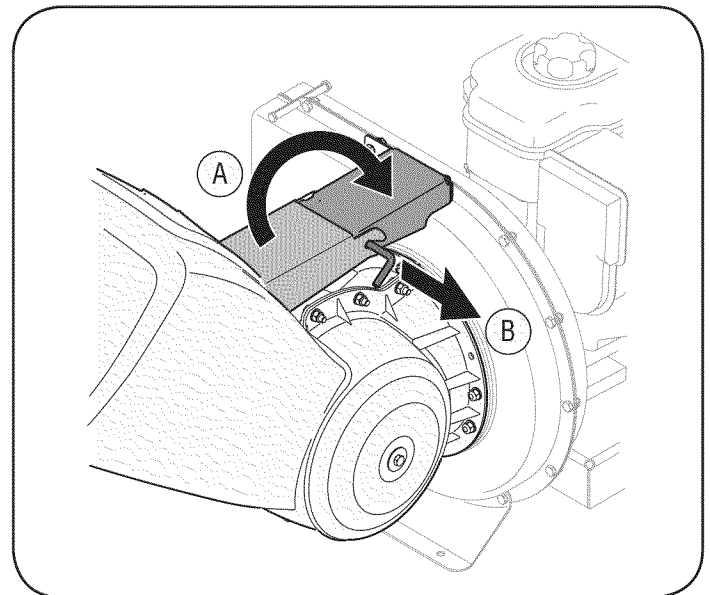

Figure 2
2. A. Lift hopper assembly up to impeller bracket assembly. See Figure 2.
B. Slide the release rod out slightly to hook the hopper bracket onto the rod. See Figure 2.